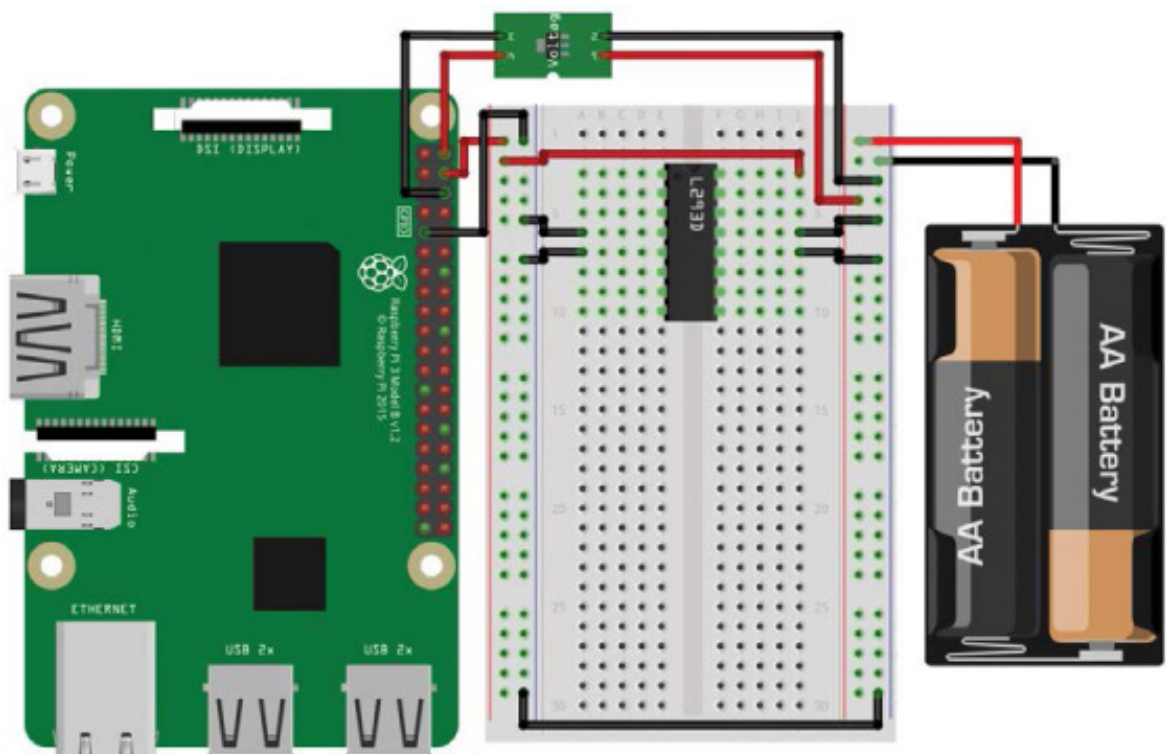

FIGURE 3-25 5 V power connected to the L293D and all four grounds wired
5. Next use a wire to connect pin 16 (VCC 1) of your L293D to the 5 V positive power rail (the one connected to your Pi's 5 V pin). This is the chip's power supply. Once you have done this, connect the ground pins (GND) found on pins 4, 5, 12, and 13 of your L293D to the common ground. See the breadboard diagram in Figure 3-25 for guidance.